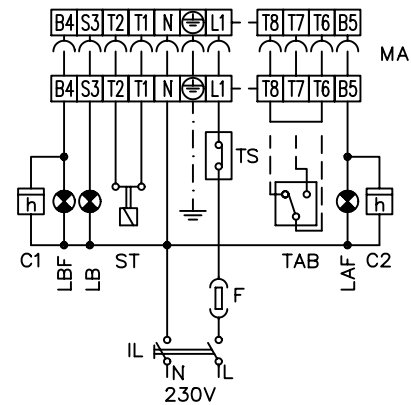

Fig. 9
- Carry out the electrical connections to the multiple connector as shown in Fig. 9.
- 1 Bring the burner to low flame by switching the High - Low flame thermostat, or alternatively moving the jumper from T6-T8 to T6-T7 (Fig. 9).